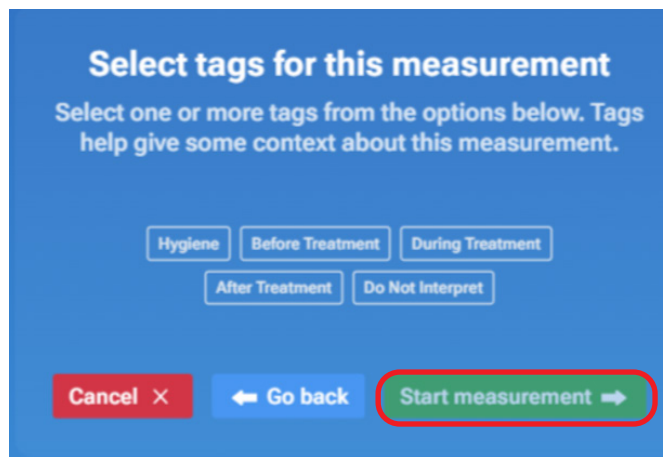

Figure 22: “Tag” Selection”
3. Select one or more “Tag” options (Figure 22) to identify the reason for taking the measurement.